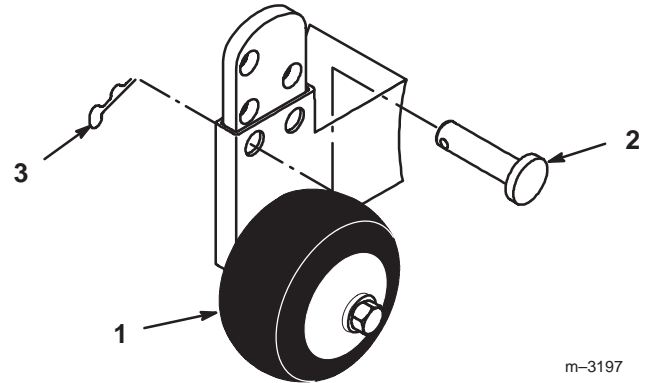

Figure 7
- Remove hairpin cotter and pin to remove gage wheel from on mower mount (Fig. 7). Slide gage wheel out of mount and reverse location.
- Select a hole position so the gage wheel is 3/8 in. (9.5 mm) off the ground for the height-of-cut to be used (Fig. 7).